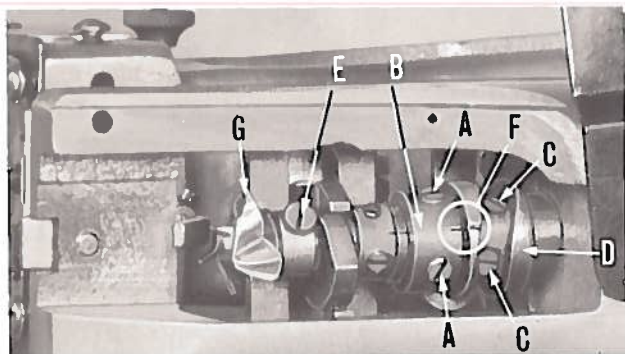

Fig. 9
To make this adjustment, loosen set screws (A, Fig. 9) in the sleeve (B), slide sleeve forward slightly and retighten one of the screws enough to prevent the sleeve sliding on the shaft during adjustment. Now, loosen screws (C) in cam (D) and slide cam in the direction necessary to secure the proper clearance between the loop positioning finger and the needle. Tighten one of the screws in the cam and slide the sleeve back so that it contacts the cam.